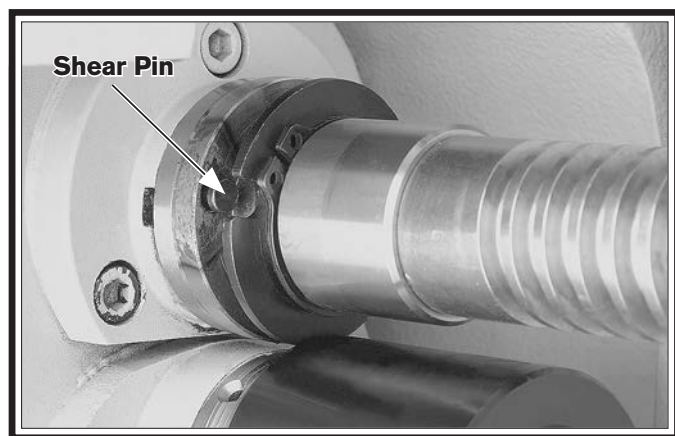

Figure 143. New shear pin installed in bore.
9. Insert the new shear pin into the bore, as shown in **Figure 143**.